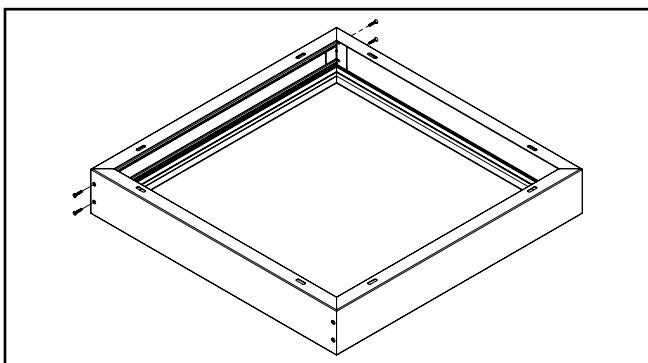

Figure 3.
- A3. Use the 8 included screws to secure the type "A" rails to the type "B" rails (2 screws per corner) as shown in Figure 3.